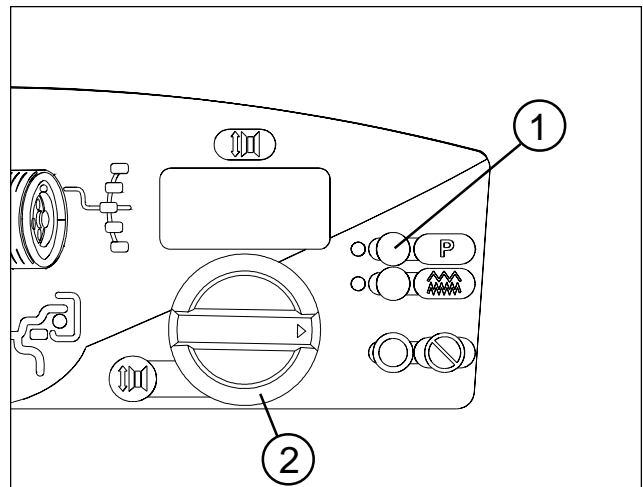

Figure 32
1. Activate Calibration. Press and hold the **P** button (#1 Fig 32) while turning the *Diameter/Function Knob* (#2 Fig 32) until the display reads "P" "14".